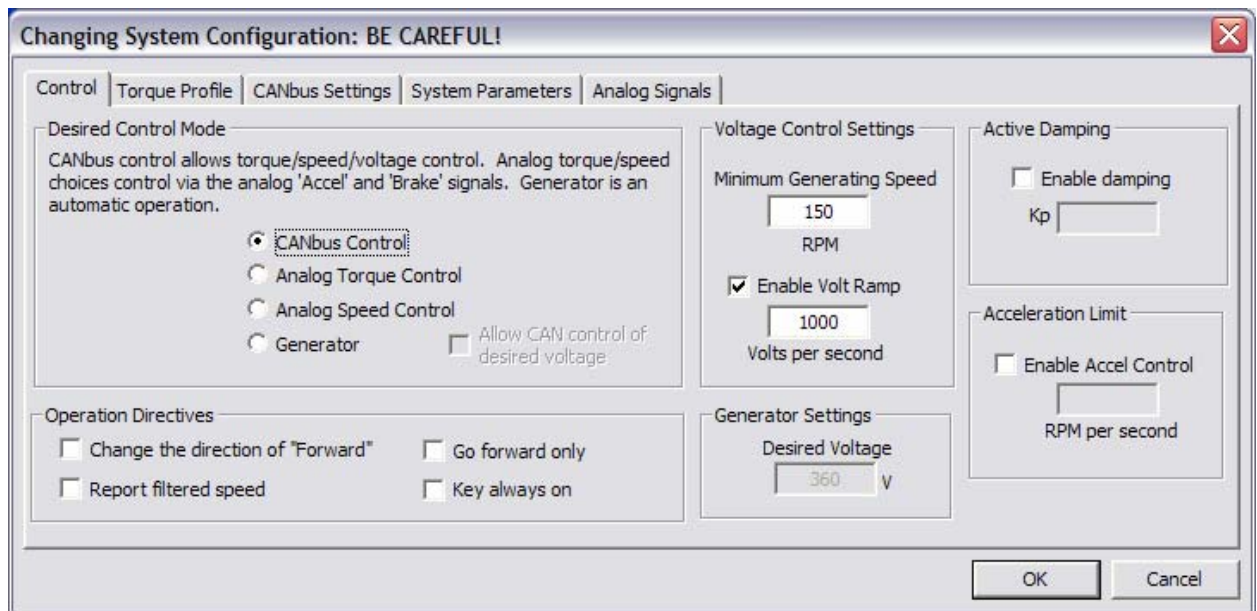

Figure 1.1 – System Configuration *Control* Tab
2. Select the *Control* tab in the System Configuration dialog (Refer to Figure 1.1)
2. Select the *Control* tab in the System Configuration dialog (refer to Figure 1.1)
1. Ensure CANbus control is enabled on the *Control* tab of the *System Configuration* dialog (Refer to Figure 1.1)